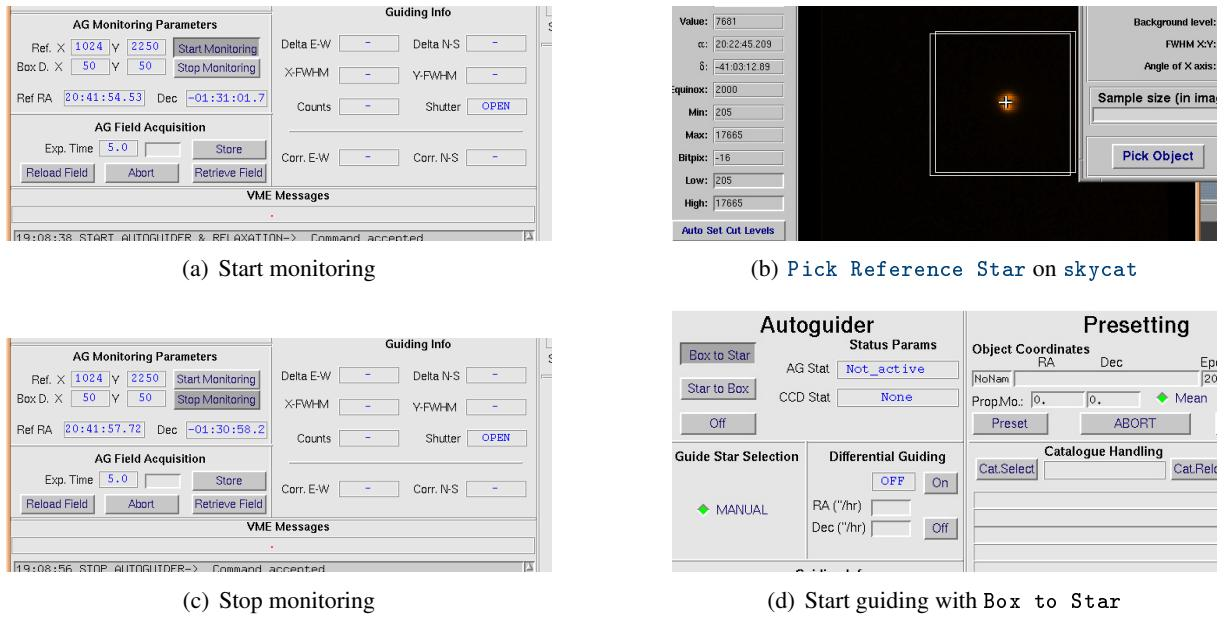

Figure 6.3: Fast guiding acquistion with WFI
A graphical outline of the procedure is given in Fig. 6.3, p. 59. Stopping monitoring and picking reference star can be performed in any order.
- B1. Click Start monitoring (Fig. 6.3(a), p. 59)
- B2. Click Stop monitoring (Fig. 6.3(c), p. 59)
- C2. Click on the star in the **skycat** window (Fig. 6.3(b), p. 59).
- D1. Activate the guiding (Fig. 6.3(d), p. 59)